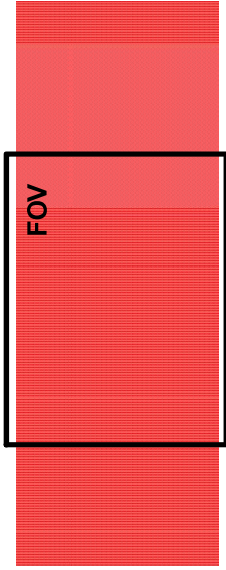

Figure 7 – Aiming Function Using The Blue Ring or Internal Lighting System *
3. Release the button to enter the Aim function. The aiming system turns on see Figure 7.